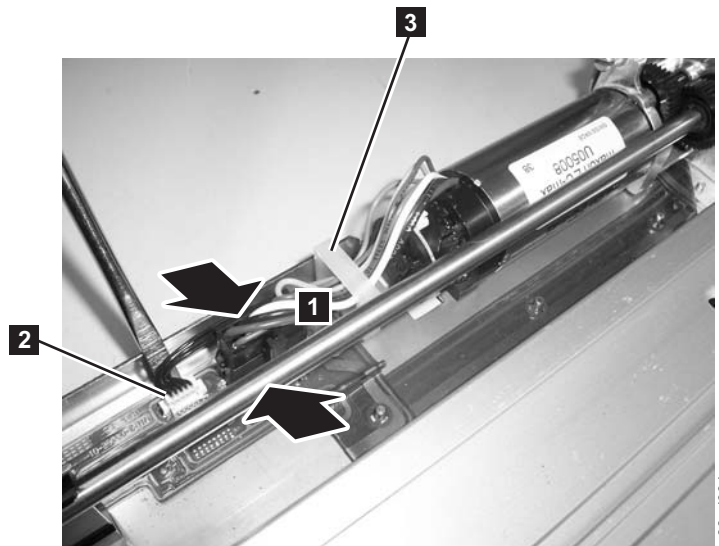

Figure 8-55. Y motor connector
3. Connect the small white connector (**2** in Figure 8-55 on page 8-58).
4. Connect the large black connector. See Figure 8-55.
- a. Pinch the latch on the cable connector (**1** in Figure 8-55).